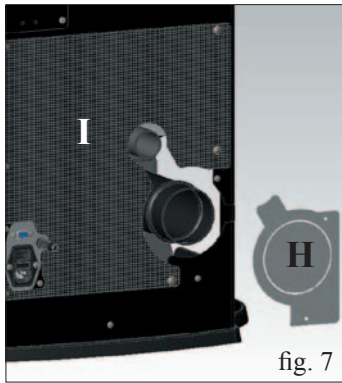

fig. 7
- Take the glass sides off (H - fig. 7) and remove the protection
- Remove the supported glass top (H - fig. 7).
- Remove the side steel, fixed to the structure of the stove with 2 screws (X - Fig. 7) to remove, pulling it upwards (I - Fig. 8)
- Remove the diaphragm (H - fig. 7) and, if necessary the perforated lower rear panel as well (I - fig. 7).